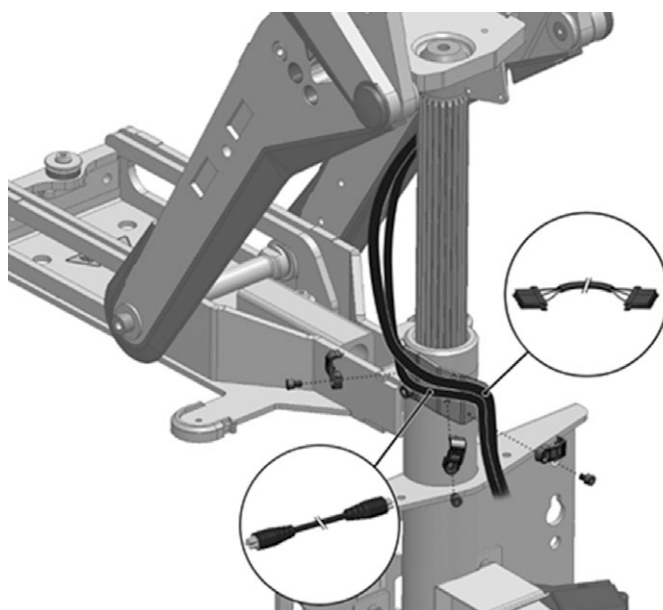

Figure 147. The bus cables are mounted on the pillar with three cable brackets.
11. The bus cables are mounted on the pillar with three cable brackets. The ICS bus cable is mounted above the Rnet bus cable in the cable brackets. See fig. 147.